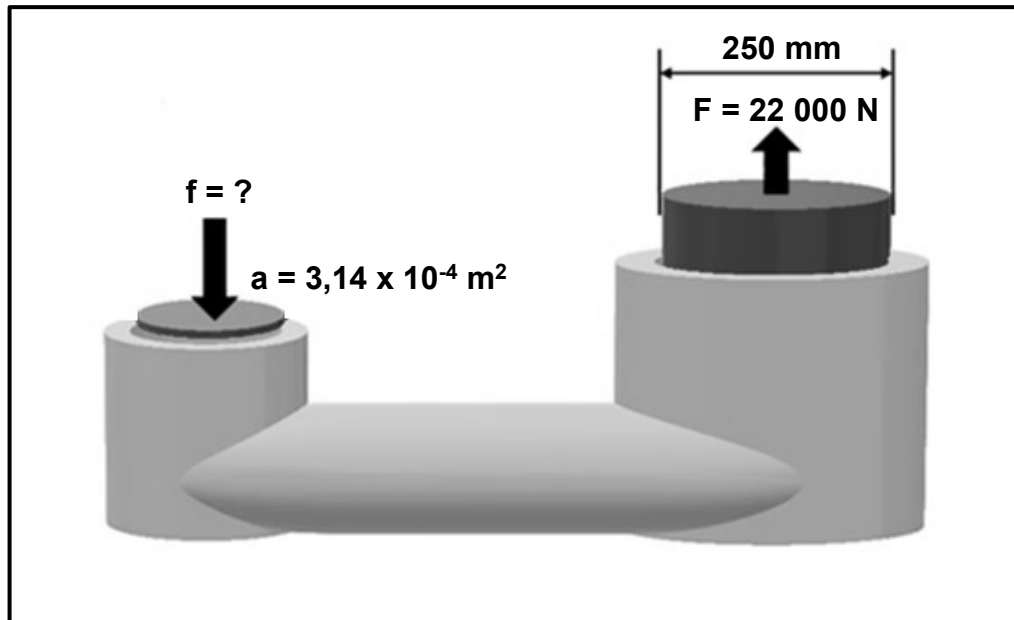

FIGURE 11.1
11.1 FIGURE 11.1 below shows a hydraulic system.